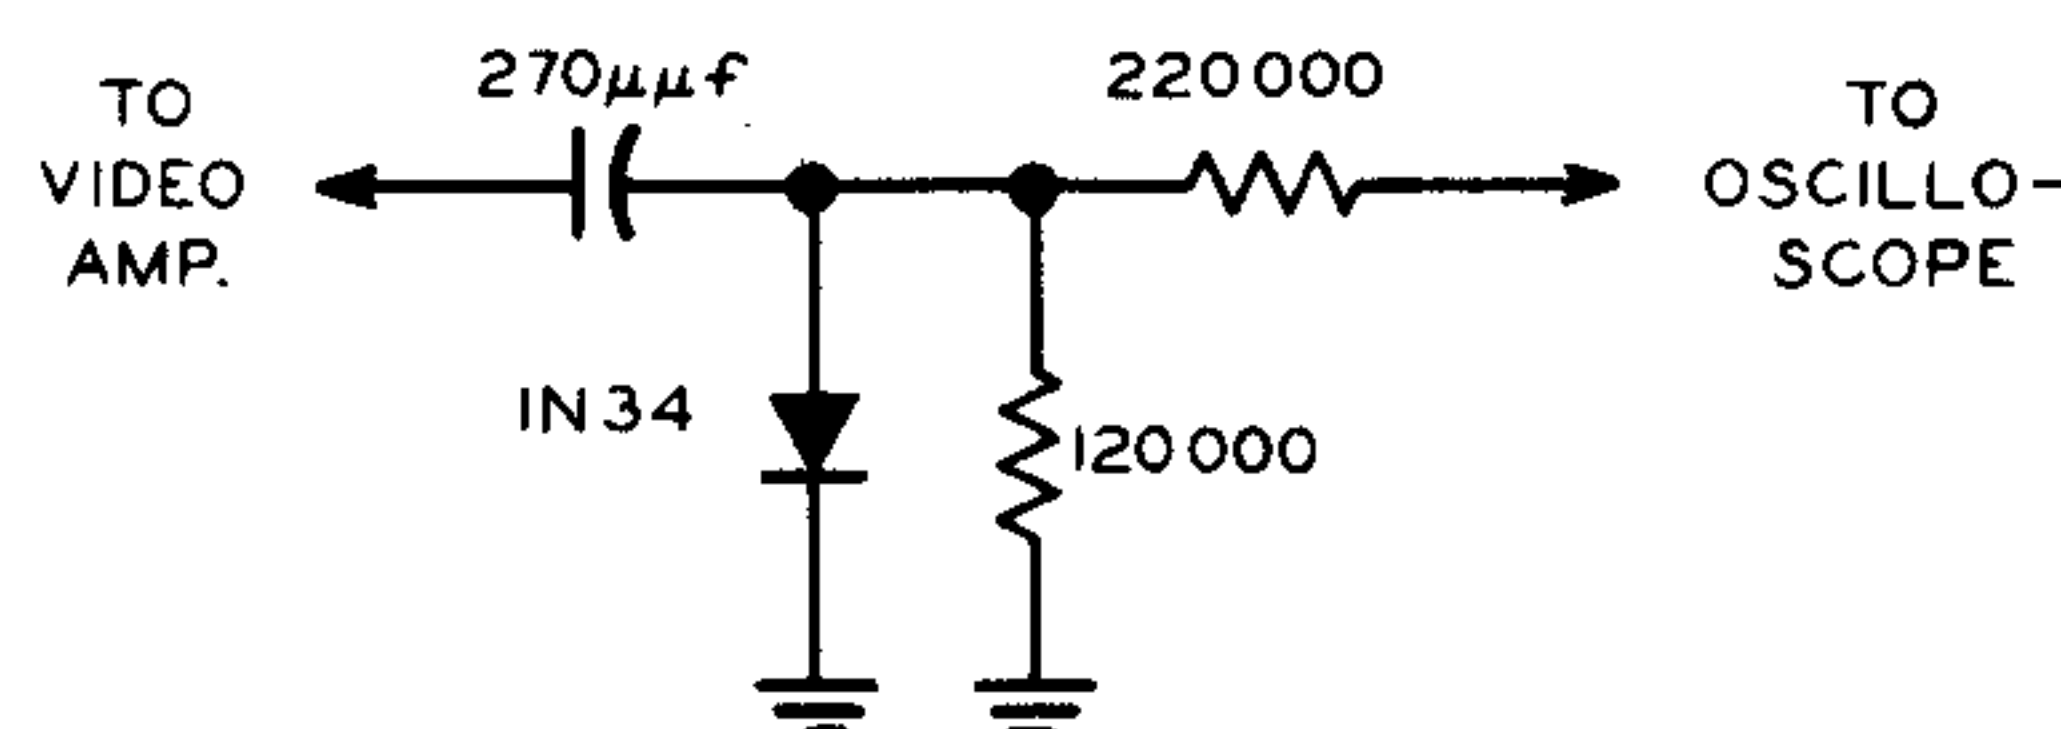

Figure 8. Crystal-Rectifier Circuit
4. Connect the output of the video amplifier through a crystal-rectifier circuit to the vertical-input terminals of an oscilloscope. A suggested crystal-rectifier circuit is illustrated in Figure 8.